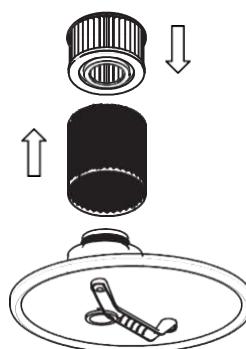

Fig. 2
- 2) Place the filter (4) in the filter housing (3) (**fig. 2**).
- 3) Turn the filter (4) or the filter housing (3) clockwise until they are secure.